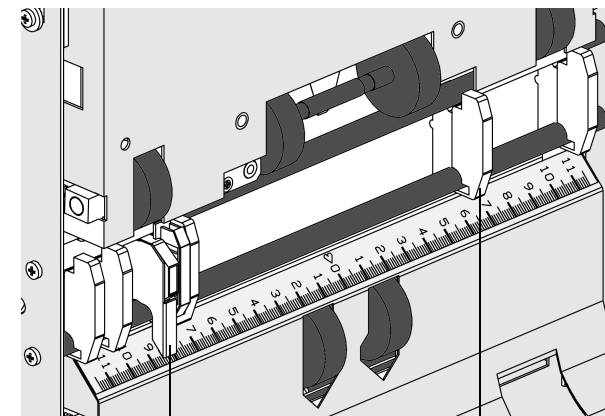

Fig. 5
- adjust the reading head A (fig. 5) according to the measured width.